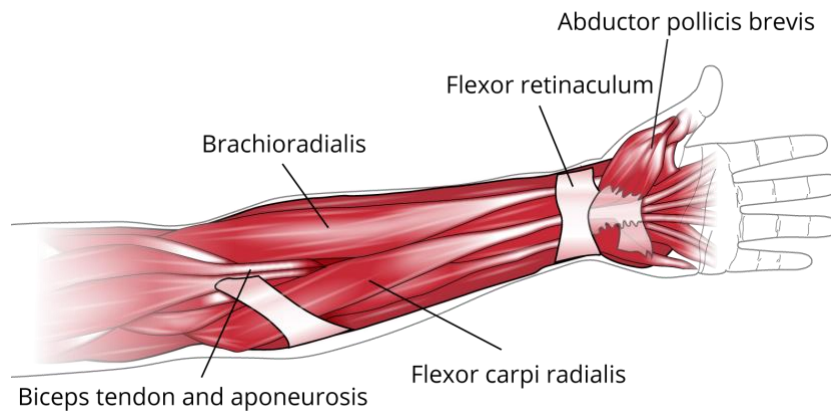
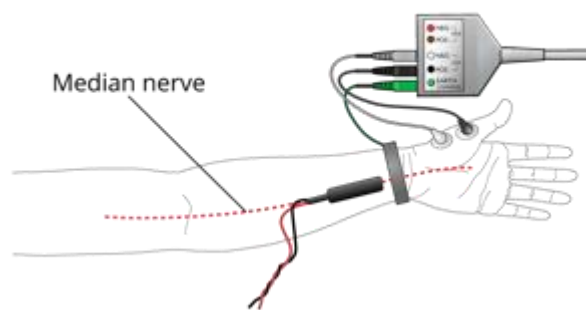

Figure 6. Muscles of the Forearm and Hand. Image courtesy of ADInstruments ©
Figure 7. Evoked EMG Setup at the Wrist. Image courtesy of ADInstruments ©
2. Use the ballpoint pen to mark two small crosses 2-3 cm apart on the skin above the abductor pollicis brevis muscle. Use Figures 6 and 7 as a guide. Abrade the skin with abrasive gel or pad. After abrasion, clean the area with an alcohol swab to remove the dead skin cells. Trim the Disposable Electrodes (If the volunteer has small hands) to match those in Figure 7 and stick them to the skin, ensuring the negative (white) electrode is closer to the
4. Place a small amount of Electrode Cream or Electrode paste on the two silver pads of the Stimulating Bar Electrode and place it over the volunteer's median nerve at the wrist (Figure 7). The Stimulating Bar Electrode should lie along the long axis of the arm, with the leads pointing toward the hand; the wires pointing toward the inner elbow – a red (positive) dot on the back of the bar should be placed away from the hand.